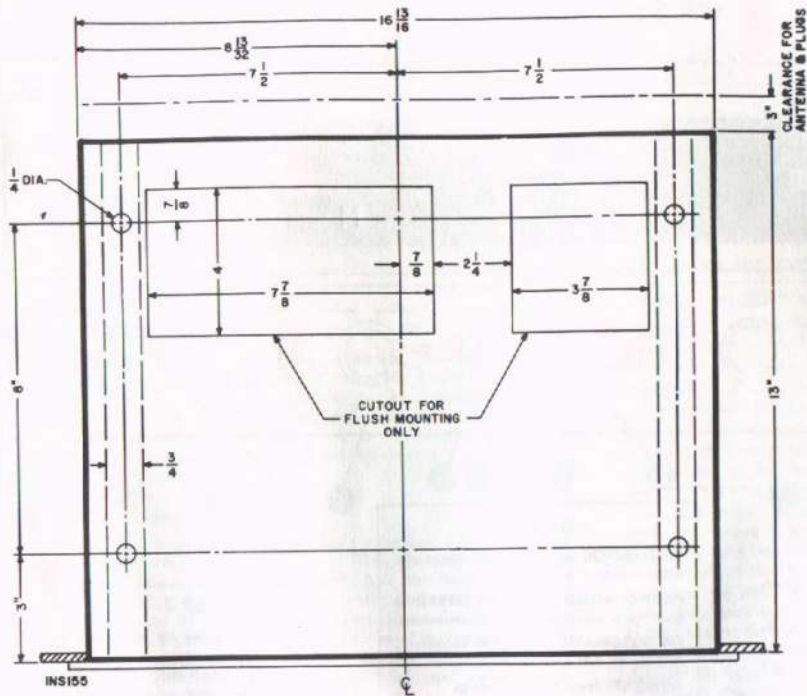

FIGURE 3. Top view of custom installation.
- 2 — Fasten the two cleats to the top of the mounting board with wood screws in the position shown in Figure 3. Screw heads should be flush with the top of the cleats. Then locate and drill four $\frac{1}{4}$ -inch holes through the mounting board and cleats as indicated.
If the height of the custom cabinet will not permit you to mount the 800-C by means of cleats, as described in the preceding section, the chassis may be mounted directly on the cabinet shelf. If the chassis is mounted in this way, however, it is essential that cutouts be made in the shelf as shown in Figure 3, and that the back of the cabinet remain completely open, in order to provide proper ventilation. For a flush-mounted installation, proceed as follows:
- 1—Locate and drill the four 1/4-inch holes in the bottom shelf of the custom cabinet as indicated in Figure 3.
- 2—Saw cutouts in the bottom shelf following the outlines shown in Figure 3. It is absolutely essential that these cutouts be made as indicated so that the necessary ventilation will be supplied to the 800-C chassis.